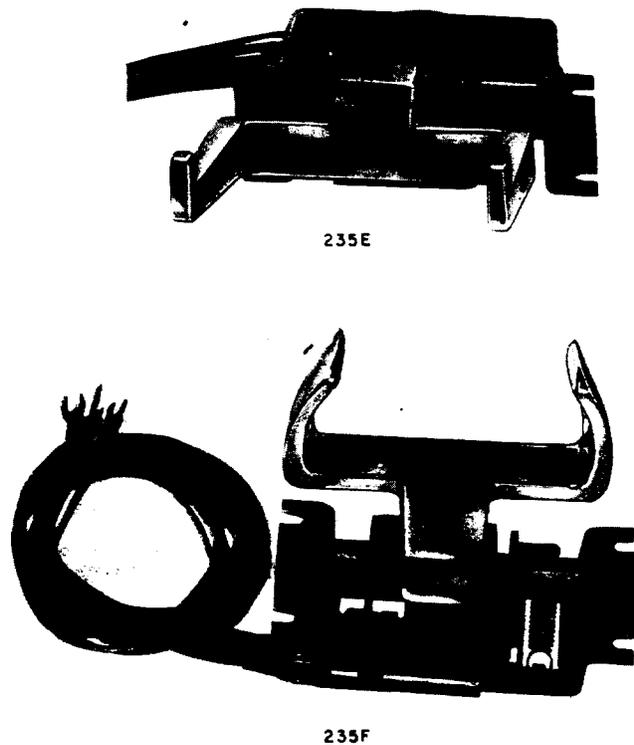

Fig. 13—235E and F Line Switch
2.35 The *235E and F* switches (Fig. 13) are card operated line switches having contacts arranged for use with speakerphone and 1A, 1A1, or 1A2 Key Telephone Systems.